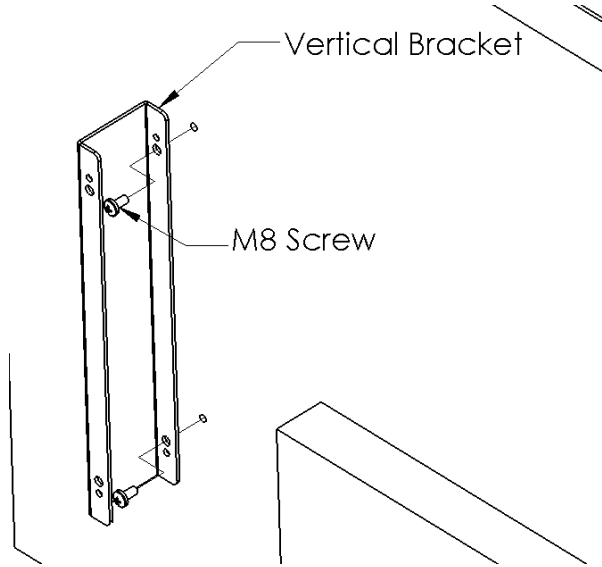

Figure 3
2. Secure the two vertical brackets to the back of the screen using the M8 screws (see Figure 3).